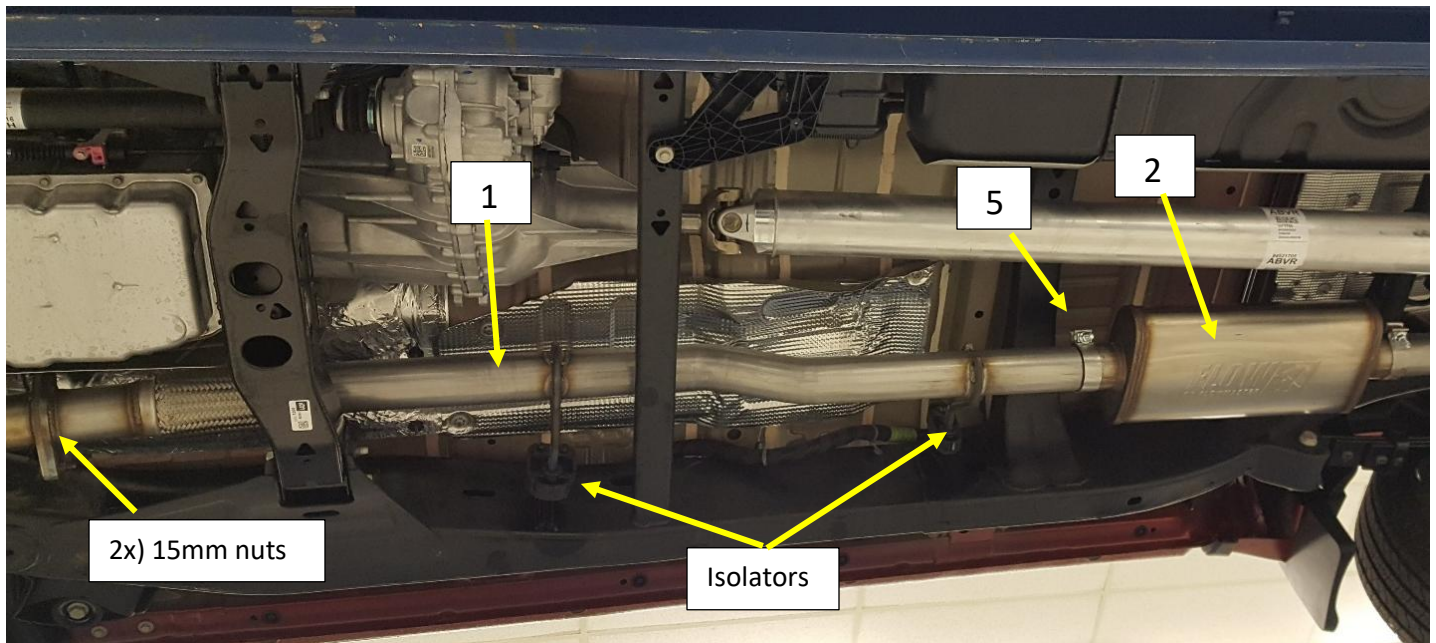

Figure.4
8. Install the Flowmaster Muffler inlet pipe (1) into the vehicle and on to the studs at the catalytic converter 2 bolt flange. **Fig.4**
9. Install the hanger rods into the isolators. **Fig.4**
10. Install the (2x) 15mm nuts on to the studs at the 2-bolt flange and tighten. **Fig.4**
11. Install a supplied 3.0" band clamp (5) on to the Muffler inlet, Bolt at the top and the nut facing the ground. **Fig.4**
12. Install the muffer (2) on to the muffler inlet pipe (1) and level with the ground and Flow FX Logo running front to back, Tighten the clamp to allow for adjustment. Support the Muffer with a jack stand. **Fig.4**
16. Install the Tail Pipe on to the Muffler Outlet pipe and install the hanger rod into the isolator. **Fig.4**